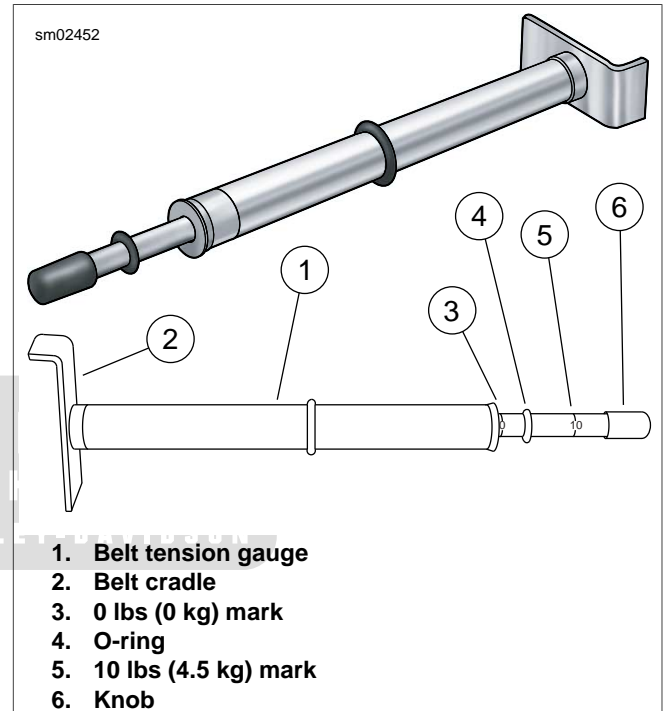

Figure 1-25. Belt Tension Gauge (Part No. HD-35381-B)
1. See Figure 1-25. Obtain H-D BELT TENSION GAUGE (Part No. HD-35381-B).